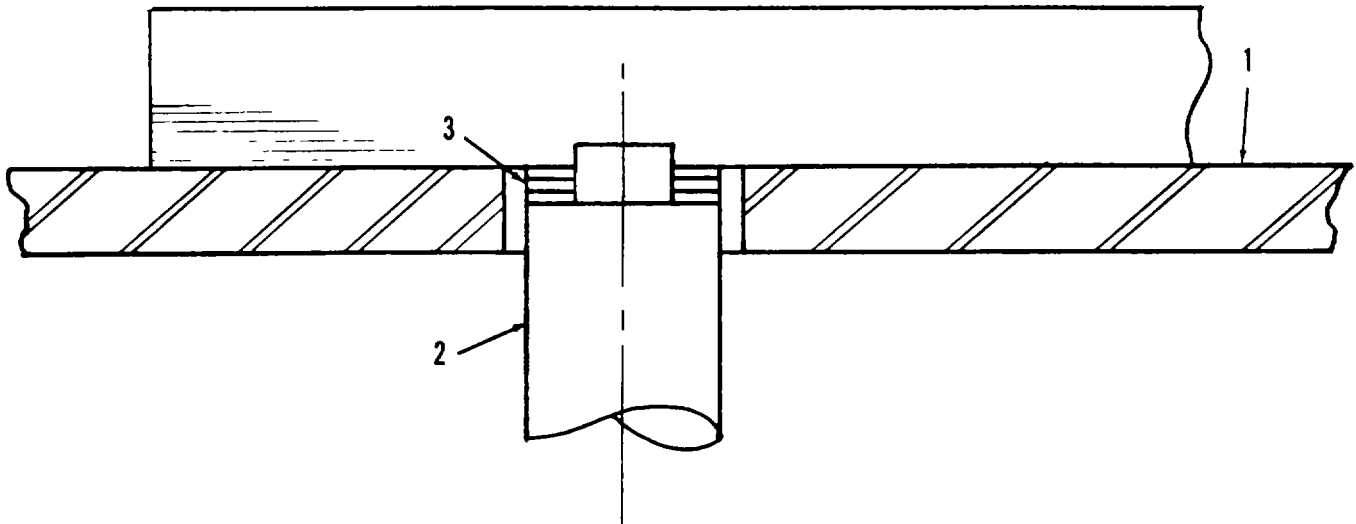

Figure 4-18. Measuring Impeller Clearance.
(b) (Refer to Figure 4-18.) Position a straight edge across the surface of the wear plate (13) and install single .010 shims onto shoulder of adapter shaft until the straight edge comes into contact with the edge of a shim when the straight edge is slid across the wear plate surface and against the adapter shaft.